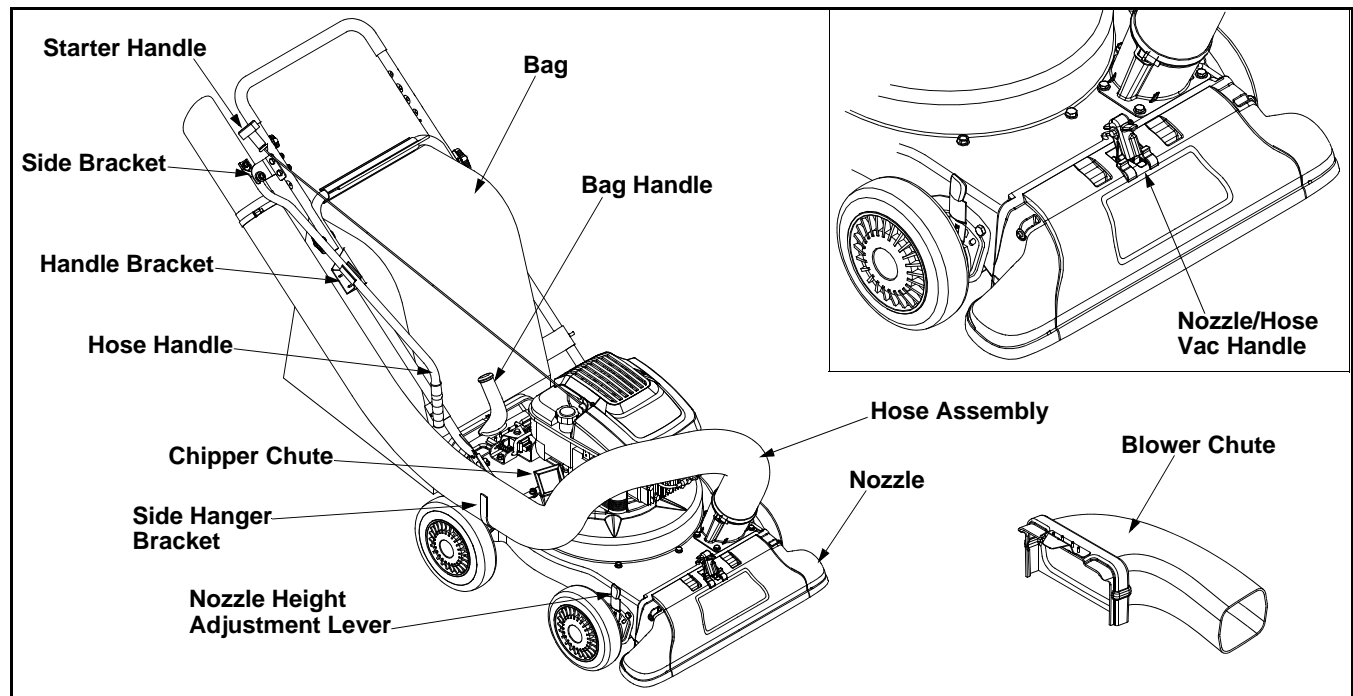

Figure 6
- Connect the hose handle near nozzle end of hose to the side bracket on the upper handle. Refer to Figure 6.
- Snap hose handle to the lower handle bracket to secure in place and lay hose tubing on side bracket hanger next to chipper chute. Refer to Figure 6.
Read this operator's manual and safety rules before operating your Yard Vacuum. Compare the illustrations in Figure 6 with your unit to familiarize yourself with the location of various controls and adjustments.
Wheels: Lubricate each wheel shoulder screw once a season with light oil. Refer to Figure 6.
Nozzle height adjustment levers: Lubricate the pivot points of the nozzle height adjustment levers once a season with light oil. Refer to Figure 6.
Locking Rod: Lubricate the locking rod with light oil to ease the application of attaching on or removing bag or blower chute. Refer to Figure 6.
Nozzle/Hose Vac Handle: Lubricate the nozzle/hose vac handle on top of nozzle once a season with light oil. Refer to Figure 6.